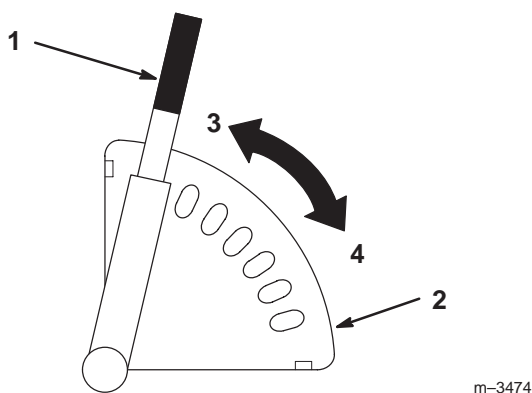

Figure 15
2. Pull the height-of-cut lever out to disengage it from the quadrant (Fig. 15).
- Adjust the height-of-cut to the desired level (Fig. 15).
- Release the lever inward to lock it into the quadrant (Fig. 15).